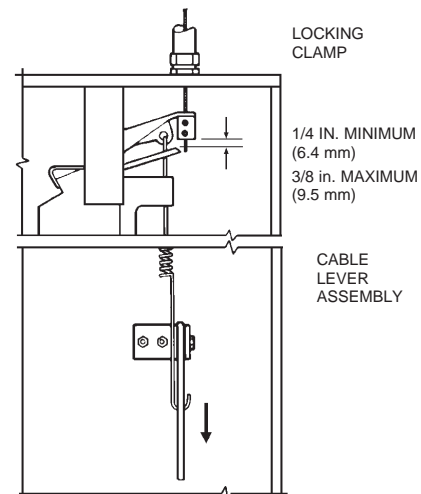

FIGURE 5-36
- ▶ 16. Lower tension lever to “DOWN” position and inspect the base of the wire rope locking clamp to make certain that there is a minimum of 1/4 in. (6.4 mm) and a maximum of 3/8 in. (9.5 mm) clearance between the base of the trip hammer locking clamp assembly and the cable lever assembly. See Figure 5-36. (If clearance is not between 1/4 in. (6.4 mm) or 3/8 in. (9.5 mm), raise tension lever, loosen set screws on locking clamp and repeat Steps 15 and 16.)